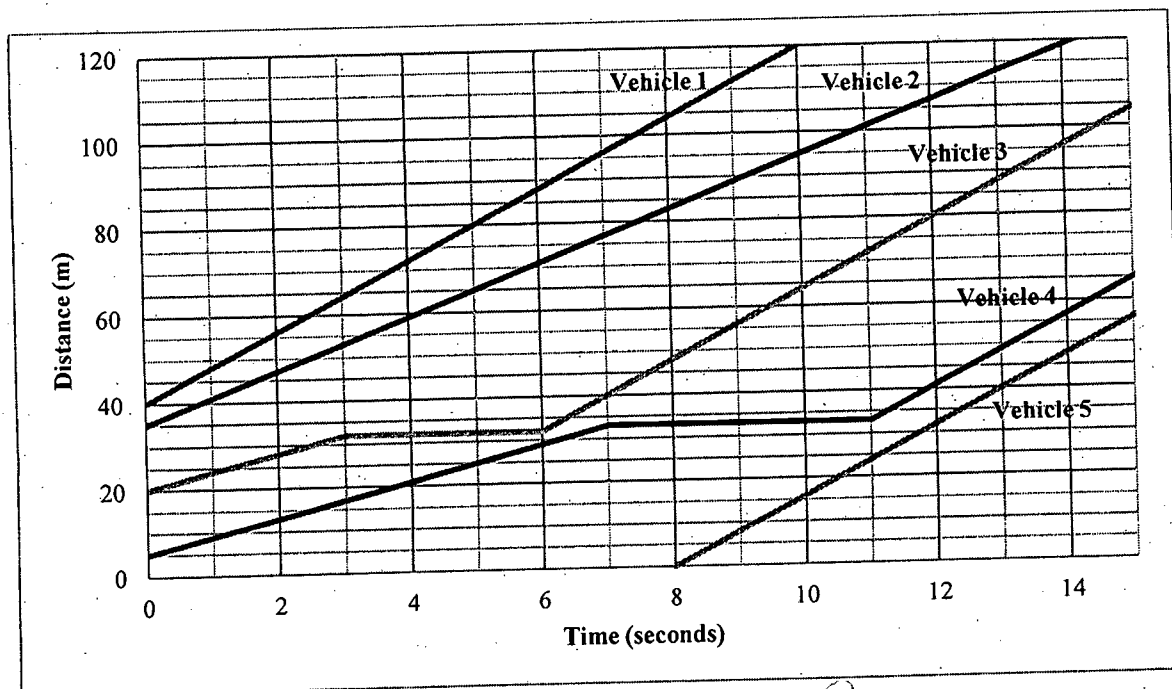

Figure 1: Time-space diagram for Question 11(c)
- (c) Figure 1 shows the time-space diagram of a road segment for a certain time interval. Determine the following traffic flow parameters from the diagram: (10  $\frac{1}{3}$ )
12. (a) Schematically explain the 'Ramp Metering' technique for urban freeway traffic management. Mention its associated benefits/costs and implemental issues. (7)
- (b) What is the basic difference between the safe distance and psycho-spacing approaches of modeling car-following phenomenon? Describe the four driving states identified by Widemann for psycho-physical modeling. (6)
13. (a) Discuss mandatory and discretionary lane changing. What are the variables that affect these lane changing decisions? (6)
(b) Referring to the excavation shown in Fig. 1, show that failure by bottom heaving will not occur if  $(\gamma h + q)B_1 - q_u \left( H - \frac{q_u}{\gamma} \right) - \frac{\pi}{2} B_1 q_u \leq q_u B_1$  (8)
1. (a) What are the basic assumptions in analyzing a structure based on linear static analysis? (5)
- (b) Write three statements to describe the advantage of FEM over other methods in solving an engineering problem. (6)
- (c) For the spring system with arbitrarily defined nodes and elements as shown in Figure 1, find the global stiffness matrix, Comment on the problem and your derived result. (12  $\frac{1}{3}$ )